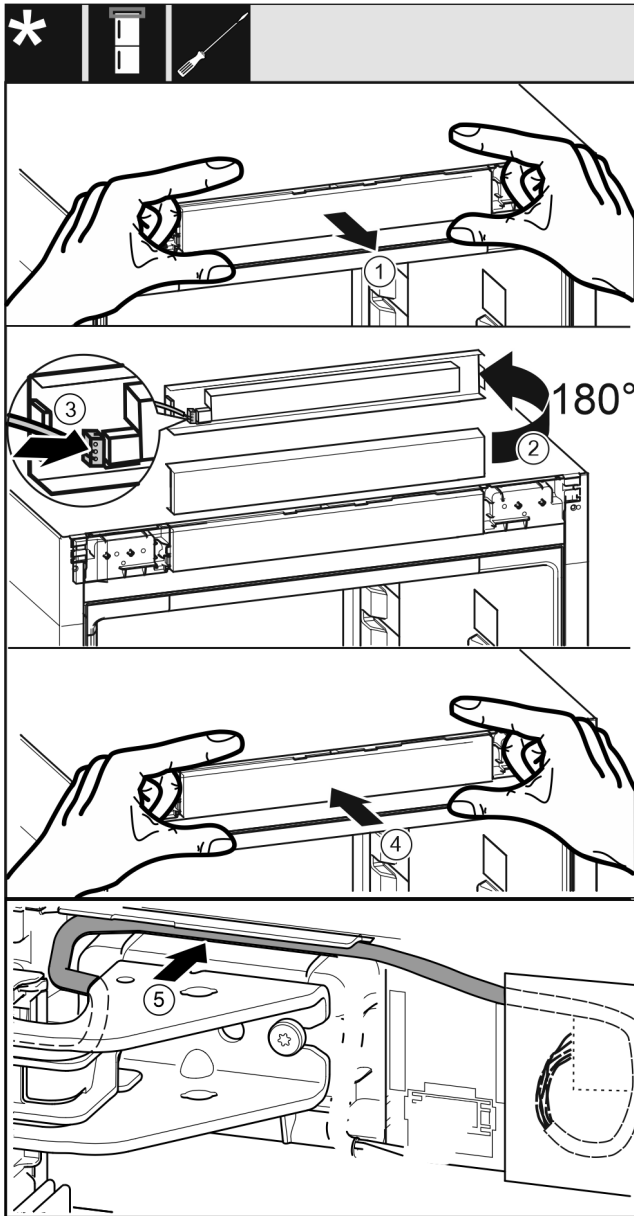

Fig. 44
- ▶ Remove the control panel trim Fig. 44 (1) carefully.
- ▶ Turn the control panel trim Fig. 44 (2) up by 180°.
- ▶ Engage the plug Fig. 44 (3) on the control panel trim.
- ▶ Re-engage the control panel trim Fig. 44 (4) on the appliance.
- ▶ Lay the cable Fig. 44 (5) carefully in the guide above the top swap bearing block.